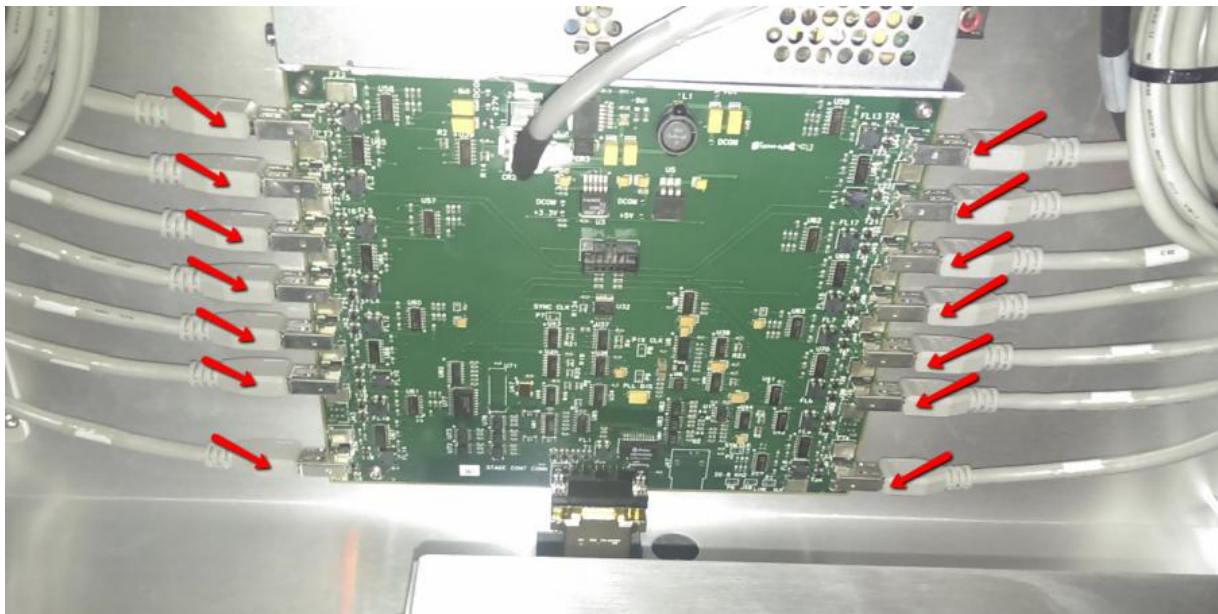

Figure 29 Fire Wire connection
13. Connect 14 x Fire Wires into Trigger Board Fire Wire Port as below Figure 29